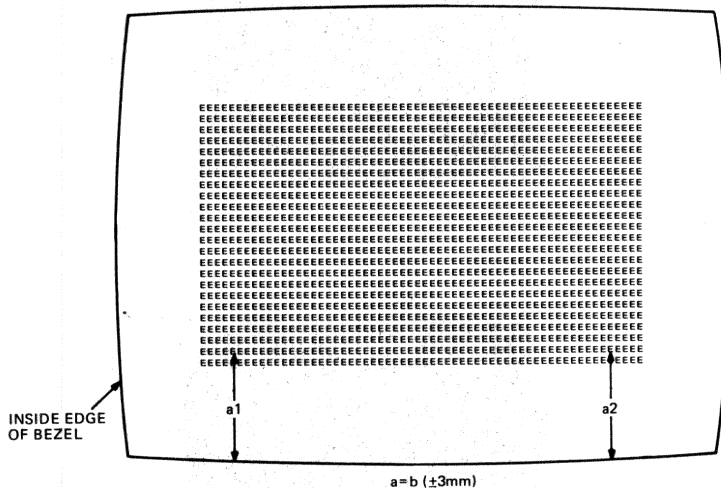

Figure E-9 Rotational Check
ESC # 8 (See Figure E-9.)
3. Use the scale on the alignment template to make the following measurements (See Figure E-9.) Find point a1 (five columns of Es from the left and one row of Es from the bottom of the alignment pattern). Measure the distance from this point to the monitor bezel.